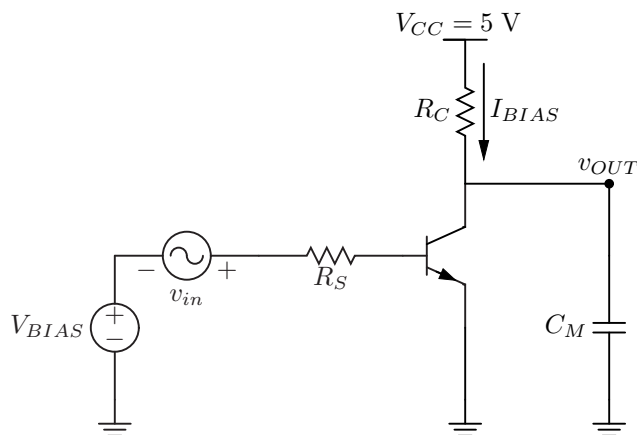

Figure 3: Output capacitance test setup
1. Let's examine the impact of output capacitance on a common emitter amplifier. Take out the Miller capacitor C_M from Section 4.2 and place it at the output as shown in Figure 3.